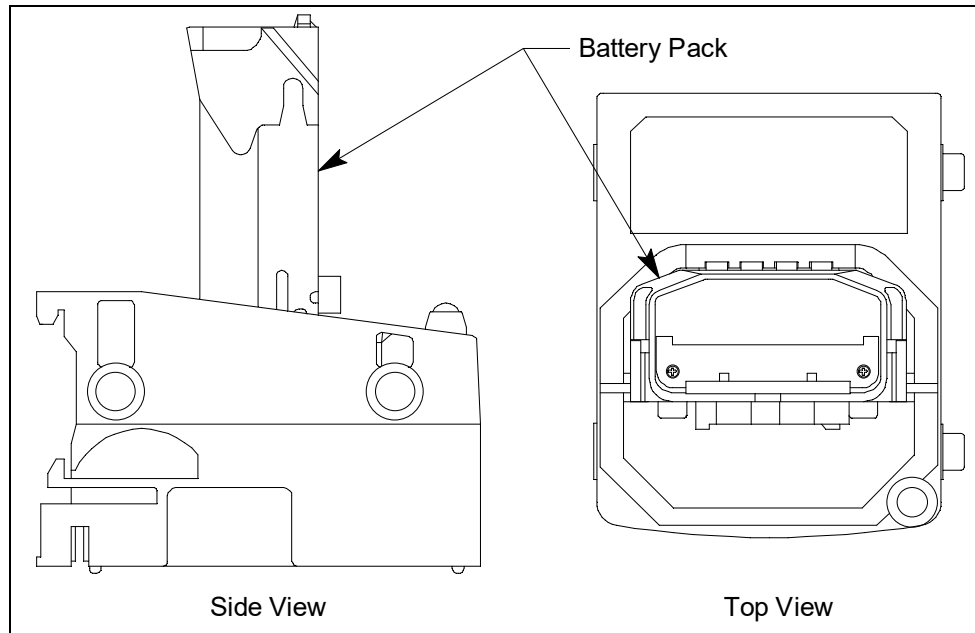

Figure 23: Putting the Battery Pack into the Charging Station
5. Insert the battery pack into the charging station as shown in Figure 23 below so that the metal contacts on the back of the battery pack come into contact with the metal contacts in the charging station. When proper contact has been made, the red LED on the charging station will turn on.